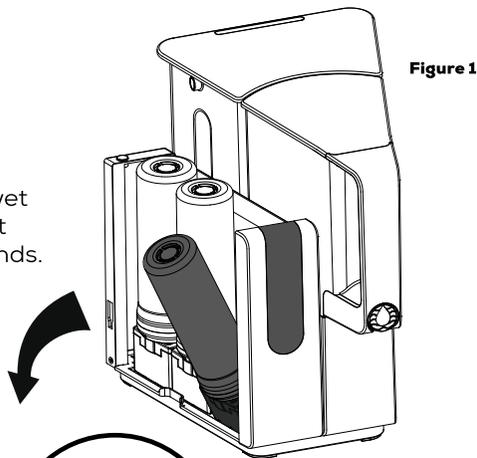

Figure 1
2. Remove old filter by turning it counter clockwise (Figure 1).